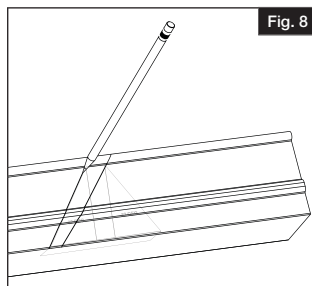
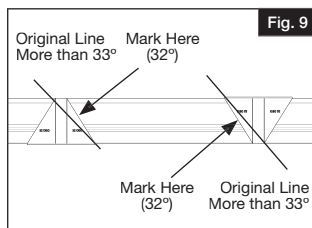
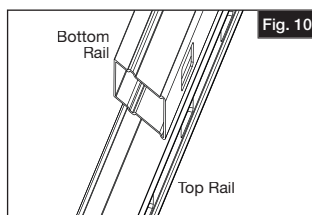
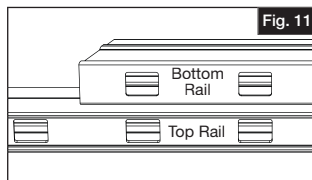

Fig. 8
Fig. 9
Fig. 10
Fig. 11
Install support braces evenly across span of railing section (Fig. 8).
Lay bottom rail on a clean smooth surface and snap balusters into routed holes (Fig. 9). Then repeat the process to connect the top rail (Fig. 10).
Slide brackets onto ends of rails (top and bottom) (Fig. 11).
- From the original line created by the post, mark another line $1\frac{1}{16}$ " on the inside of the bottom rail (closer to the baluster routes) (Fig. 8). This is accomplished by using the angle template (Fig. 9). This additional removal of material will allow for bracket clearance when the rail is installed. For this 34°-38° angle, the new line will NOT be parallel to the previously drawn line.
Place top rail flat on table. Lay the cut bottom rail on top of the top rail, with the routed holes facing in the same direction (Fig. 10). Line up the routes (Fig. 11).